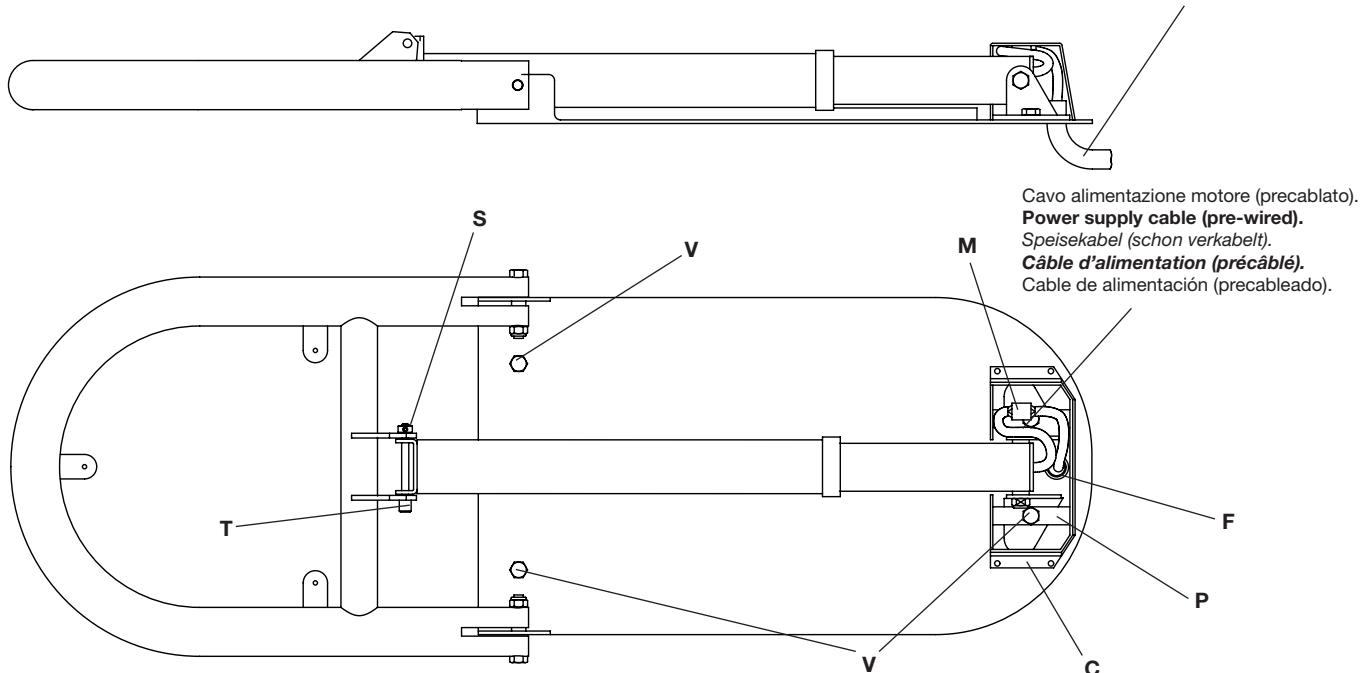

Fig.1
1. Installazione (fig. 1)
2. Sblocco manuale (fig. 1)
3. Urto accidentale (fig. 1)
1. Installation (fig. 1)
2. Manual release (fig. 1)
3. Accidental hits (Fig. 1)
1. Installation (Abb. 1)
2. Manuell entsichern (Abb. 1)
3. Zufällige Stöße (Abb. 1)
2. Déblocage manuel (fig. 1)
3. Choc accidentel (Fig. 1)
1. Instalación (fig. 1)
2. Desbloqueo manual (fig. 1)
3. Choque accidental (Fig. 1)